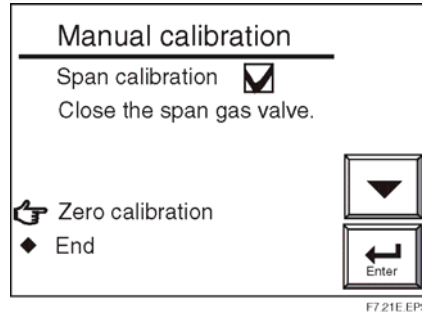
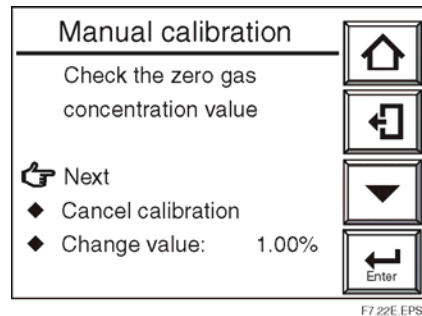

Figure 7-27 Span Calibration Complete
Figure 7-28 Zero-gas Concentration Check Display
- After the measured value has stabilized, press the [Enter] key to display the “span-calibration complete” display screen shown in Figure 7-27. At this point, the measured value is corrected to the span-gas concentration setting. Close the span-gas flow valve. The valve lock-nut should be tightened completely to prevent the span gas from leaking.
- Select Zero calibration as shown in Figure 7-27 to display the zero-gas concentration check display. Verify the concentration value displayed is the correct value for the reference zero gas. If it is, select “Next” as shown in Figure 7-28.